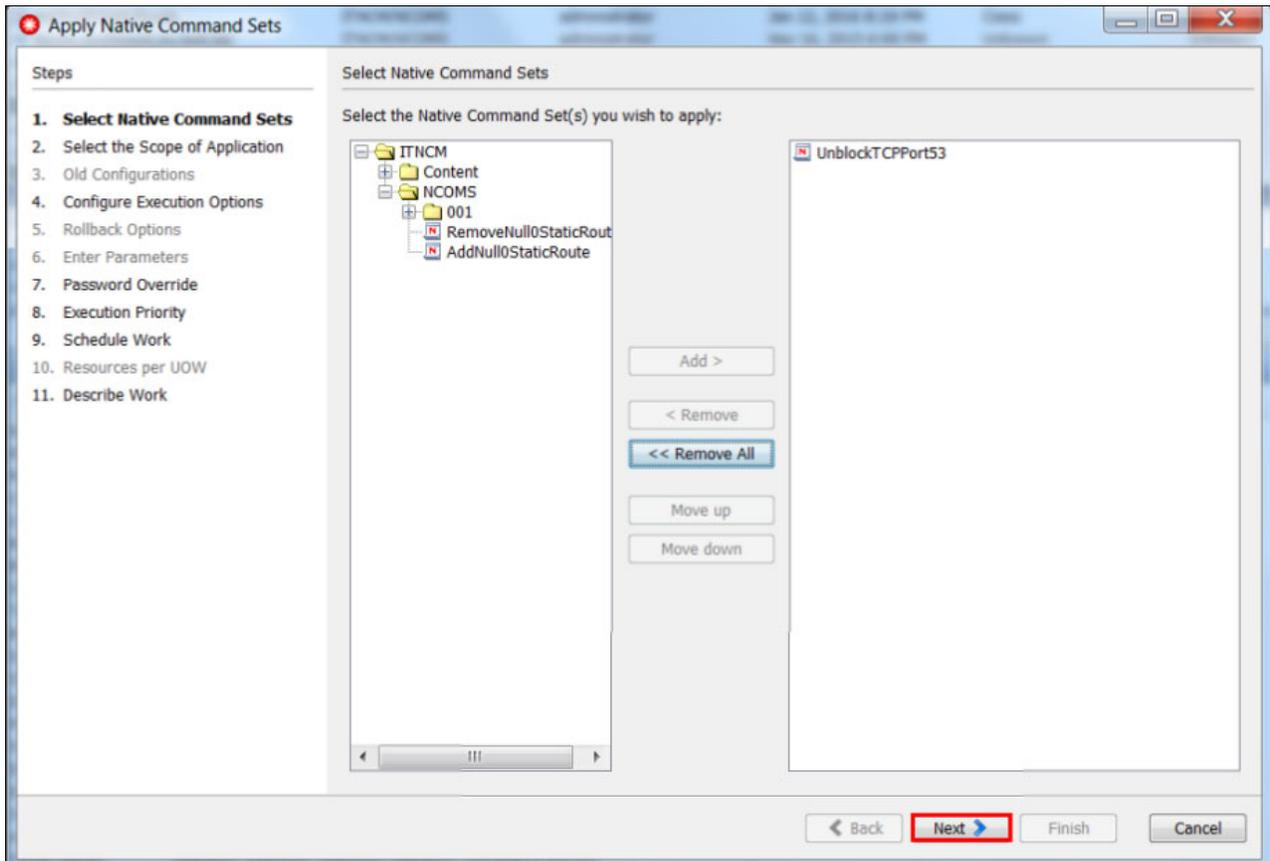

Figure 2-40 Implementing the change to unblock TCP port 53 on the Secondary DNS Server
15. Brock selects the Native Command to remove the DNS (TCP port 53) block (see Figure 2-40).